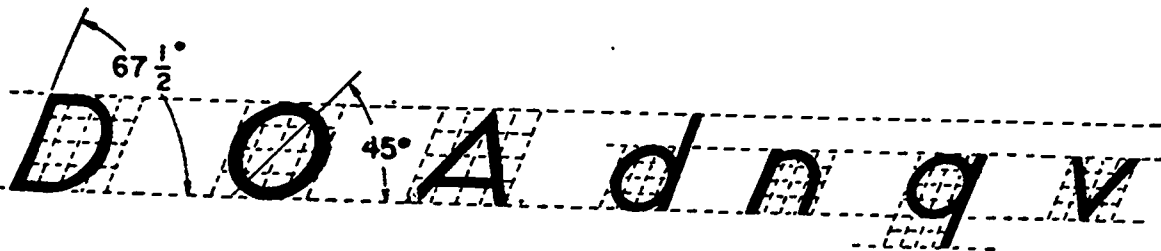

Figure 3-7. Inclined letter formation.
**Inclined Letters.** Inclined or italic letters are made with the same number of strokes and in the same sequence as vertical letters. Figure 3-7 shows some of the things you should know about inclined lettering. The stems of slanted lettering are sloped so that they make an angle of  $67\frac{1}{2}^\circ$  with the horizontal guideline. This makes the major axis of curved letters slope at a  $45^\circ$  angle. Figure 3-8 shows the form of the capitals, lowercase, and numerals of an inclined Gothic alphabet. Compare these with the vertical alphabet which you have just completed studying.